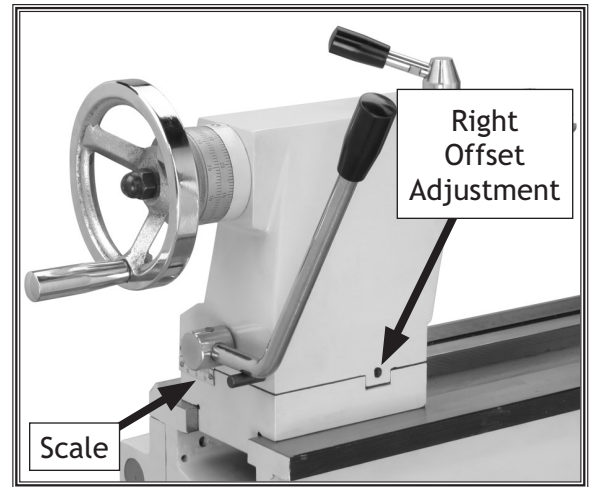

Figure 25. Right offset adjustment.
2. Alternately loosen and tighten the left and right offset adjustment screws until the desired offset is indicated on the scale (see Figures 25 & 26).